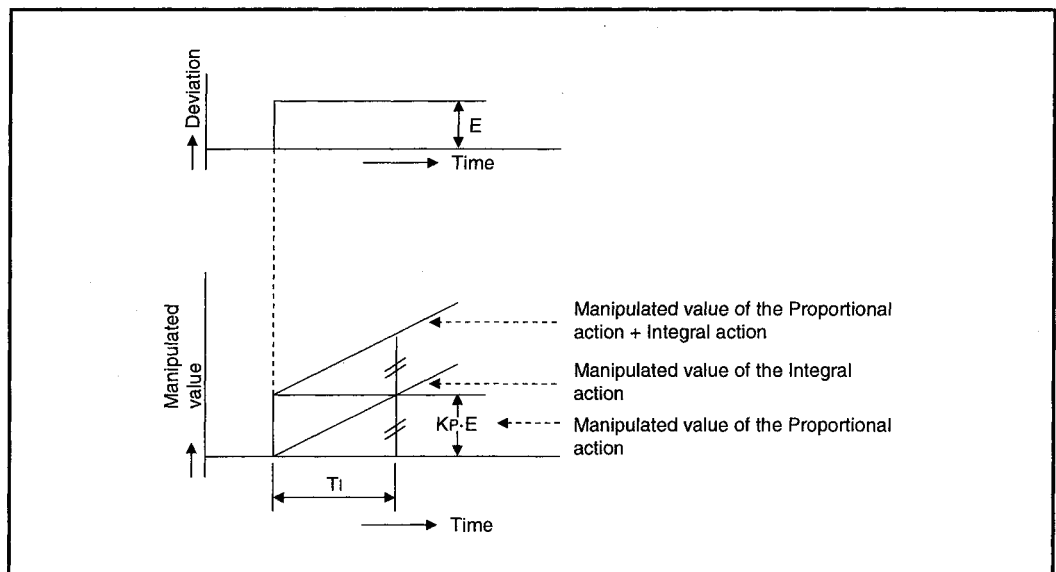

Fig. 1.8 Integral action for step response
- (2) In the integral action, the time from the deviation occurrence until the manipulated value of the integral action becomes that of the proportional control action is called the integral time, and is indicated by  $T_i$ .
- (3) The integral action for the step response when the error value is constant is shown in Figure 1.8.
- (4) The integral action is used as a PI action in combination with the proportional action, or PID action in combination with the proportional and derivative actions.